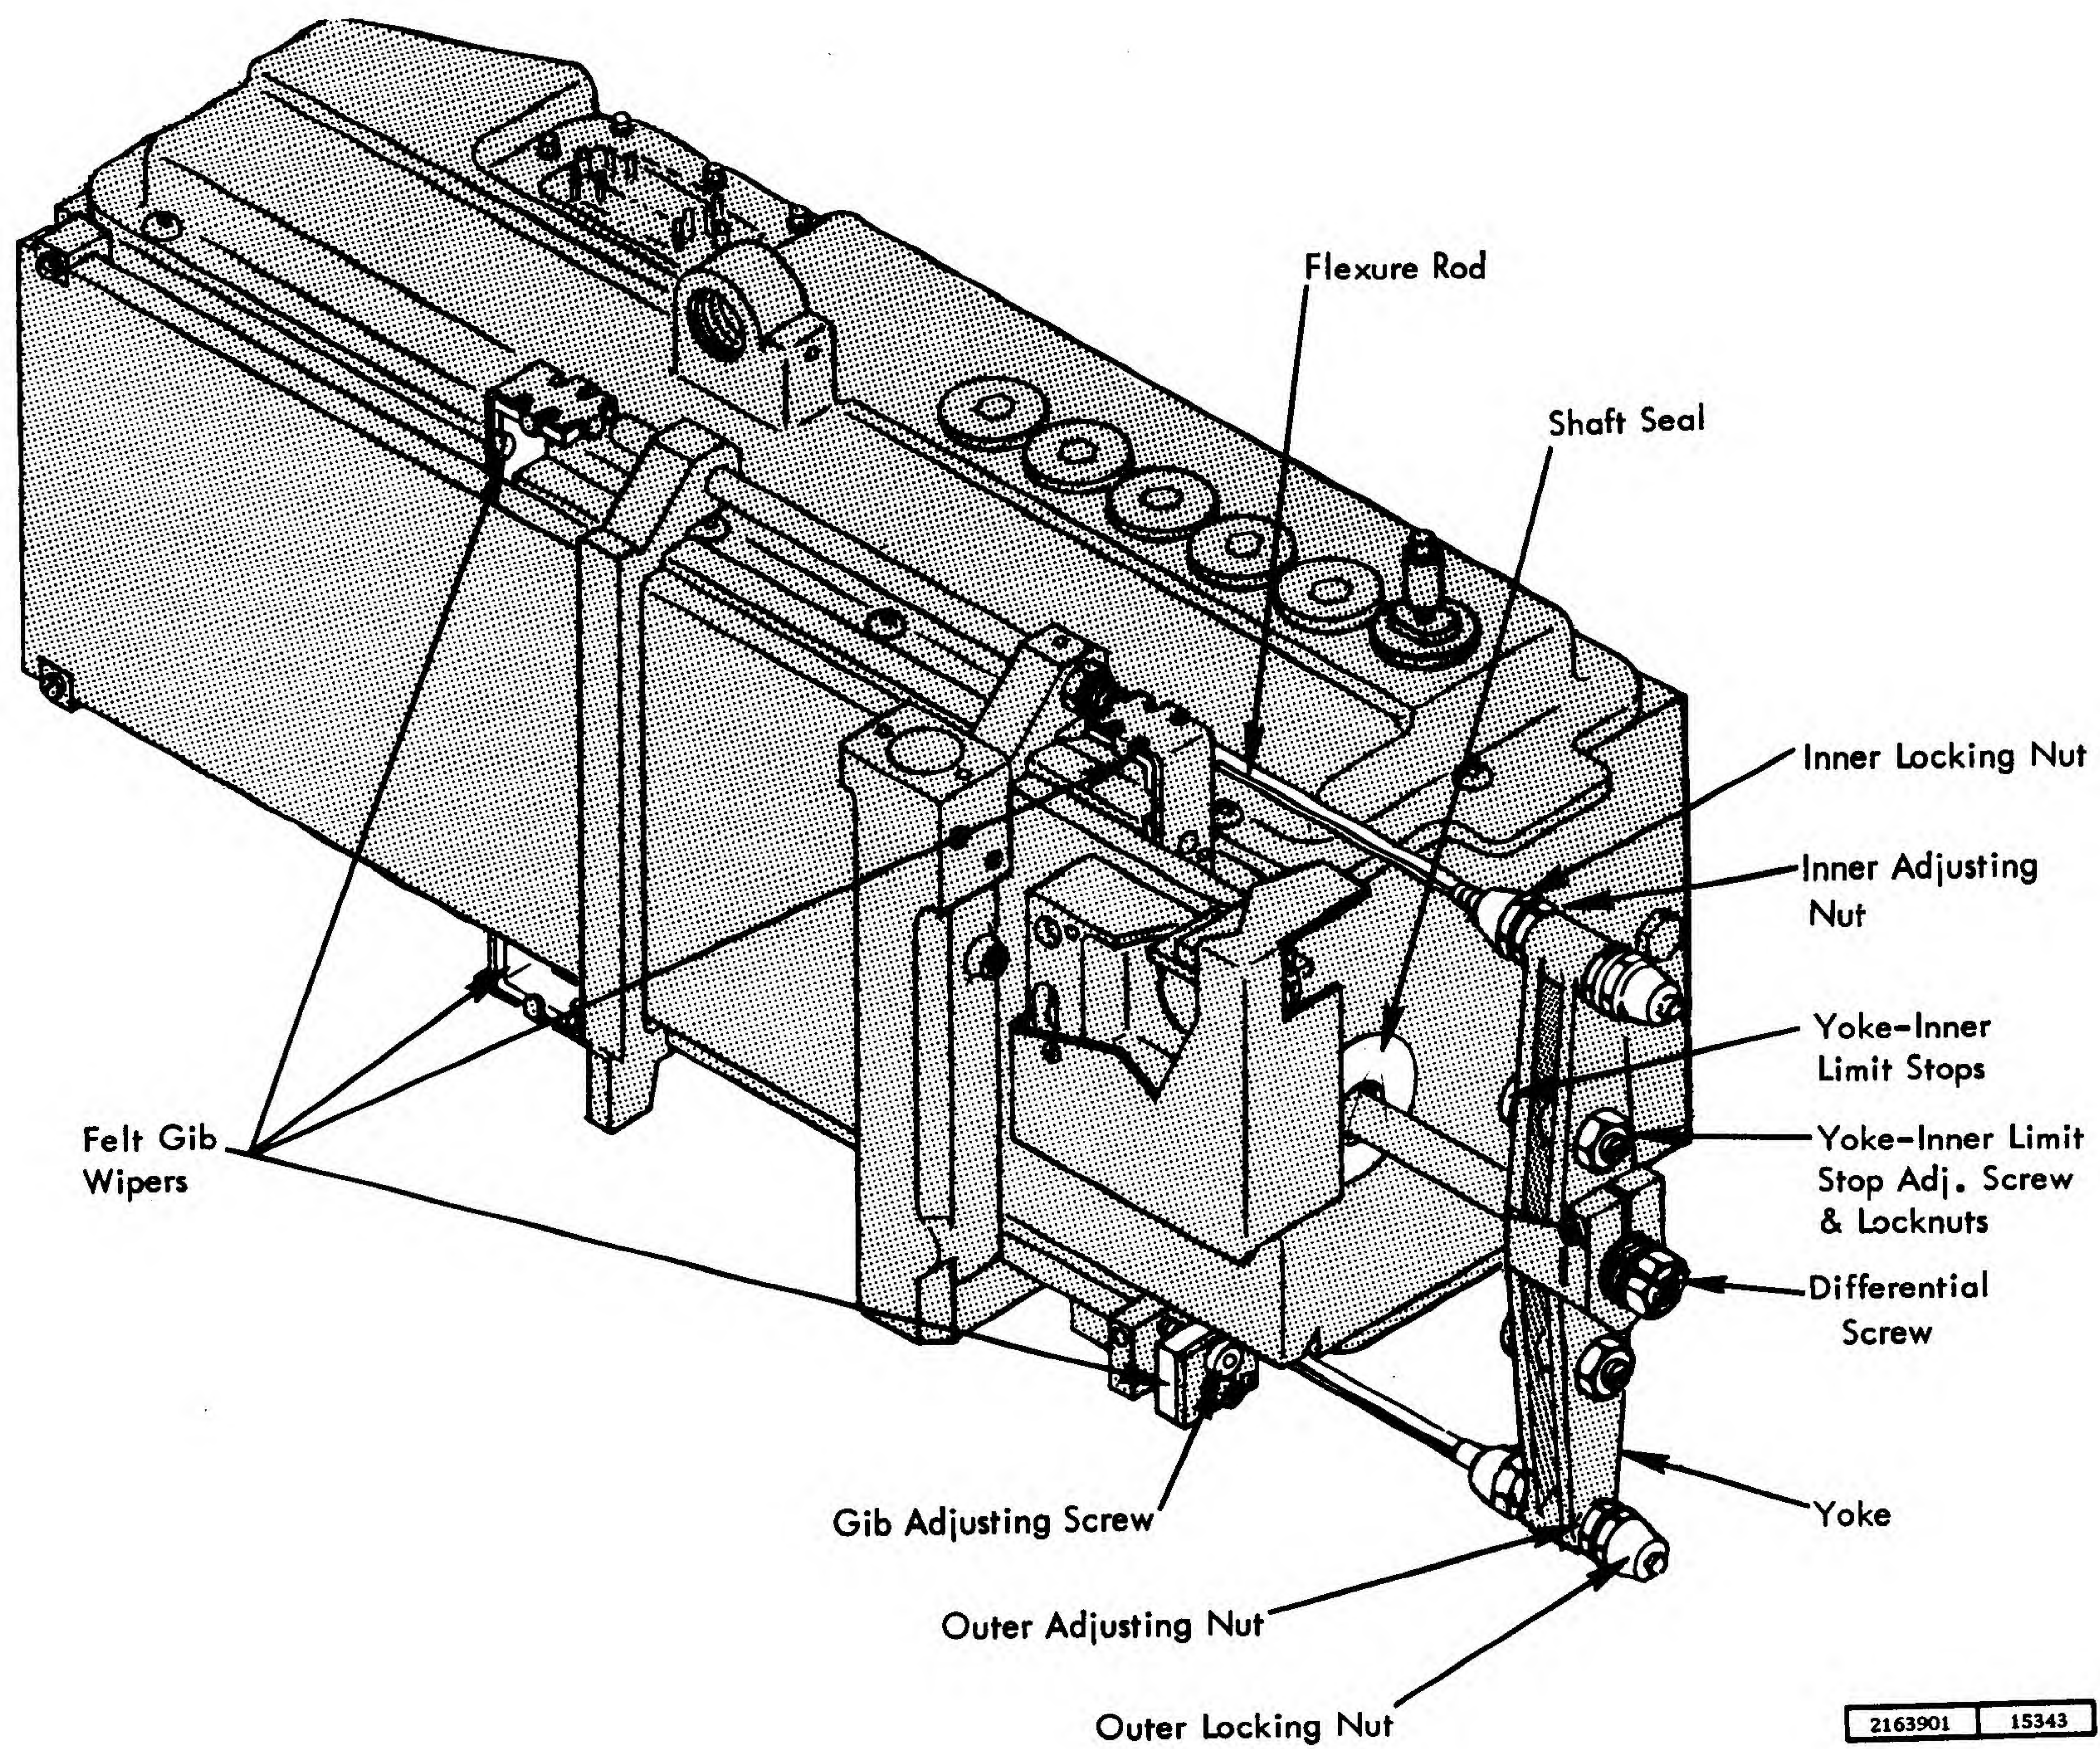

Figure 3-38 Carriage Components
3.4.1.1 Carriage Gib (Figure 3-38)
3.4.1.5 Carriage Flexure Rods (Figure 3-38)